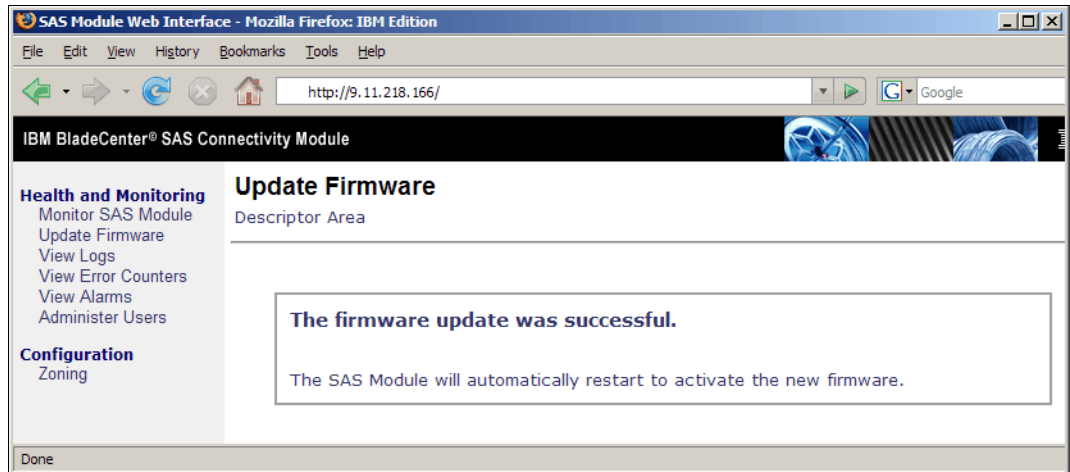

Figure 18-11 SAS Connectivity Module - Update successful
5. Click **OK** or **Cancel**. If the installation of the new firmware file is successful, an installation confirmation window opens as shown in Figure 18-11 on page 546. If there are errors during the installation, an error message window displays.